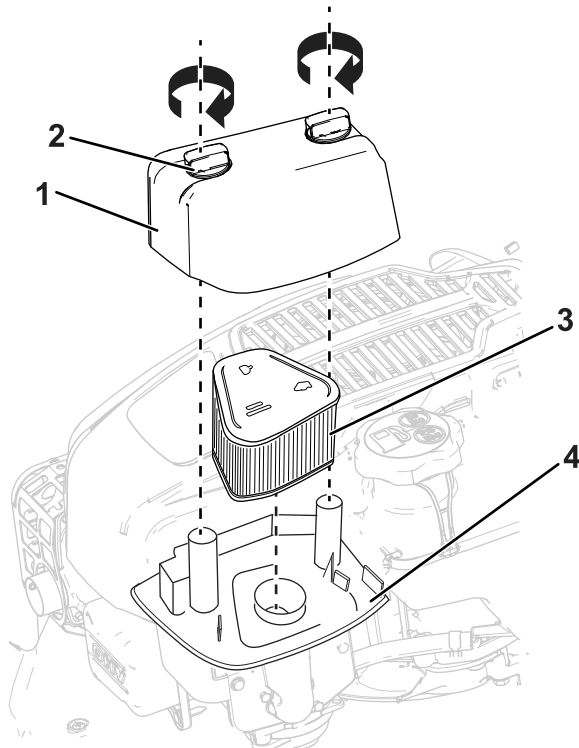

Figure 28
1. Loosen the fasteners and remove the air-filter cover (Figure 28).